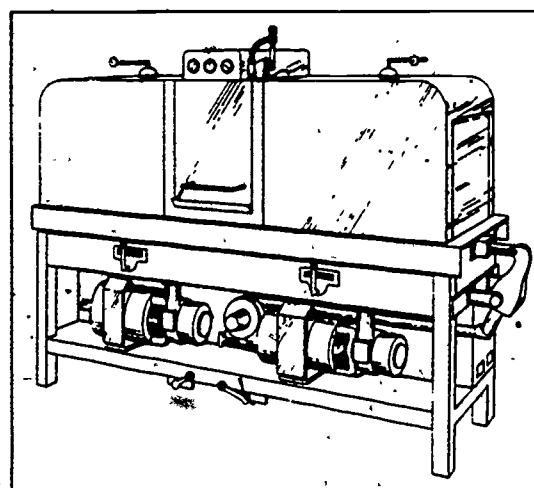
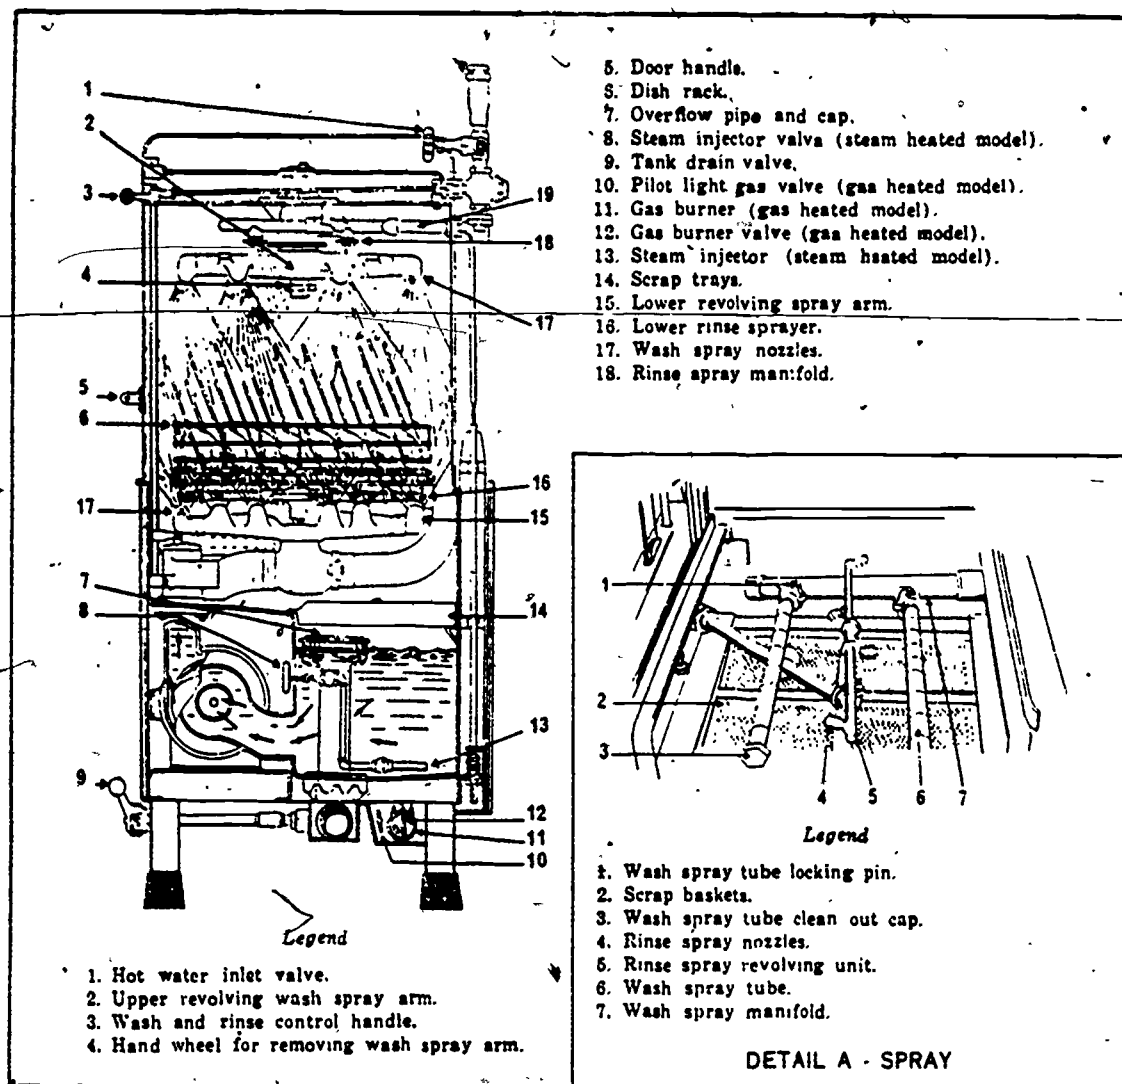

Figure 5-12. Overall view of a dishwashing machine.
Figure 5-13. Cross section of a dishwashing machine.
**Construction of a Dishwasher.** Dishwashing machines are used to wash and rinse kitchen utensils in a quick, sanitary, and efficient manner. They are manufactured in many different types, but the single- and double-tank types are the most commonly used in Air Force messhalls. An overall diagram of a dishwasher is shown in figure 5-12, and a detailed mechanism of a similar dishwashing machine is illustrated in figure 5-13. Usually the components of a dishwasher are the body, tanks, wash and rinse chambers, hot water booster, wash and rinse sprayer tubes, waterflow control handles, water mixing valve, doors, racks, conveyor, strainer trays, overflow pipes, drain control handles, pumps, control switch, and thermometer. The hot water booster is probably the